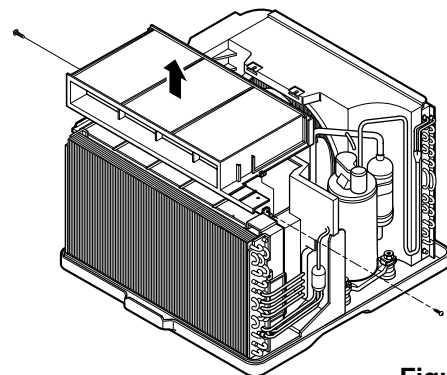

Figure 28
7. Re-install the components by referring to notes. (See Figure 28)